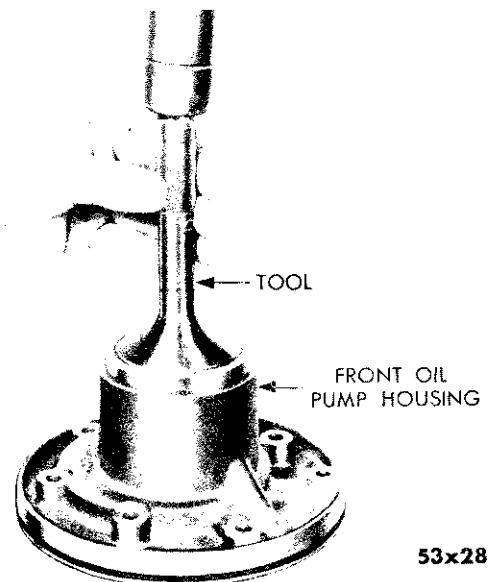

Fig. 37—Installing Front Pump Oil Seal
(1) Position front oil pump housing oil seal in front of oil pump housing (metal portion of seal down). Using driver, Tool C-3278, bottom seal into housing, as shown in Figure 37.
(2) Coat new front oil pump housing seal (neoprene) with transmission fluid and install on housing. Make sure seal is properly seated in groove (lip facing down) and that it protrudes .010 inch above circumference of housing.
(3) Place transmission front oil pump gear and pinion (driving lugs of pinion facing up) in oil pump housing and check the marking. Unless oil pump pinion is installed correctly, considerable damage will result when transmission is installed in vehicle. Lubricate oil pump gears with Automatic Transmission Fluid, Type "A", Suffix "A".
(4) Place front oil pump housing assembly (with oil drain facing up) over torque converter reaction shaft and slide into position over guide studs and up against regulator valve body. Start five of the bolts and draw housing down evenly until it is seated into transmission case.
(5) Remove guide studs and install the two remaining bolts and washers. Tighten to 17 foot-pounds torque. After all bolts have been installed and properly torqued, engage the driving lugs of the oil pump pinion to determine if oil pump pinion turns freely. Use the oil pump drive sleeve for this check. If pinion does not turn freely, remove pump and check for foreign matter between pump gears and housing. Lugs of drive sleeve should extend not more than from $\frac{1}{2}$ to $\frac{5}{8}$ inch beyond face of oil pump housing.
(6) Using a new gasket, install the torque converter control valve spring and retainer. Tighten 35 to 40 foot-pounds torque.
(7) Using a new gasket, install the transmission regulator valve spring and retainer. Tighten from 45 to 50 foot-pounds torque.